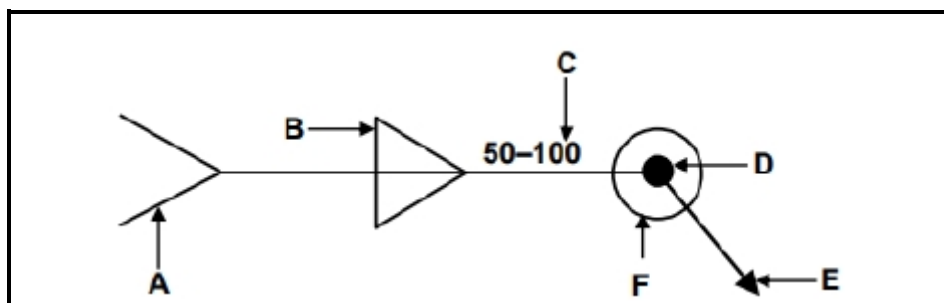

FIGURE 5.4
- 5.4 FIGURE 5.4 below shows a drawing with welding symbols.